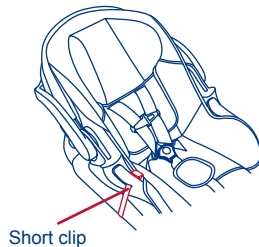

Fig. 18c
• When the infant car seat is locked firmly into place, **strap the single Short Clip over the infant car seat** through the seat belt slot on the infant car seat (Fig. 18c).